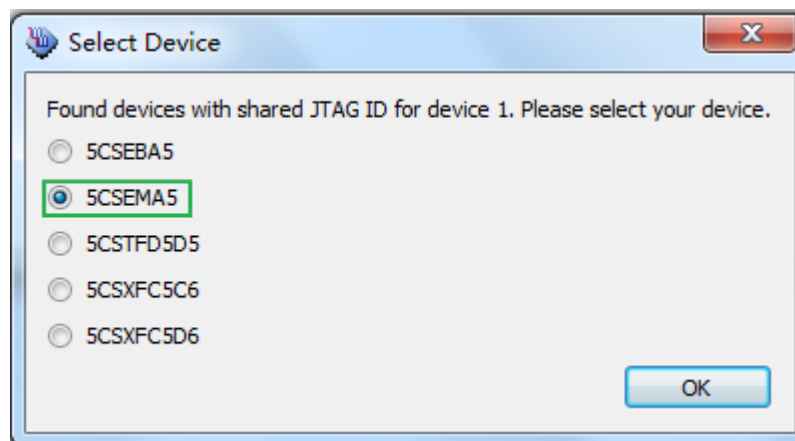

Figure 3-4 Select 5CSEMA5 device
2. Select detected device associated with the board, as circled in **Figure 3-4**.